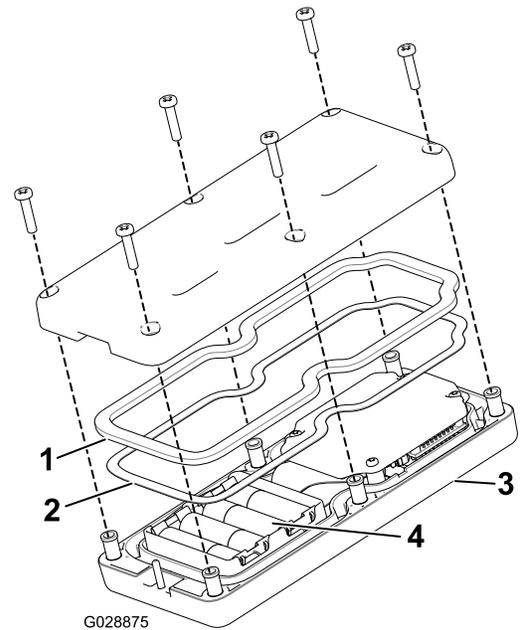

Figure 38
3. Remove the 6 screws from the back of the remote and remove the cover (Figure 38).
5. Plug each fresh battery into a terminal cradle observing proper polarity. (If the batteries are improperly installed, the unit will not be damaged, but it will fail to operate.) The cradle is embossed with polarity markings for each terminal (Figure 38).
6. If you accidentally removed the rubber seal and the steel gasket, replace them carefully into the channel in the handheld remote (Figure 38).
7. Replace the cover and secure it with the 6 screws removed previously (Figure 38) and torque them to 1.5 to 1.7 N-m (13 to 15 in-lb).